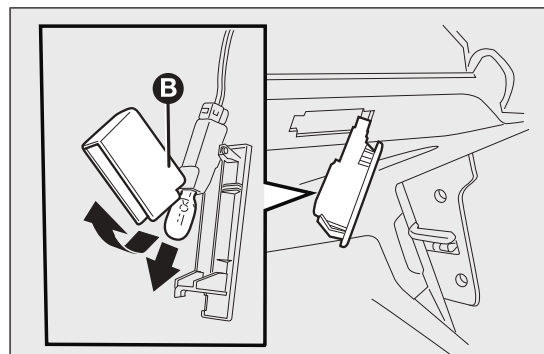

fig. 161
- open protection B fig. 161 and replace the snap-fitted bulb;